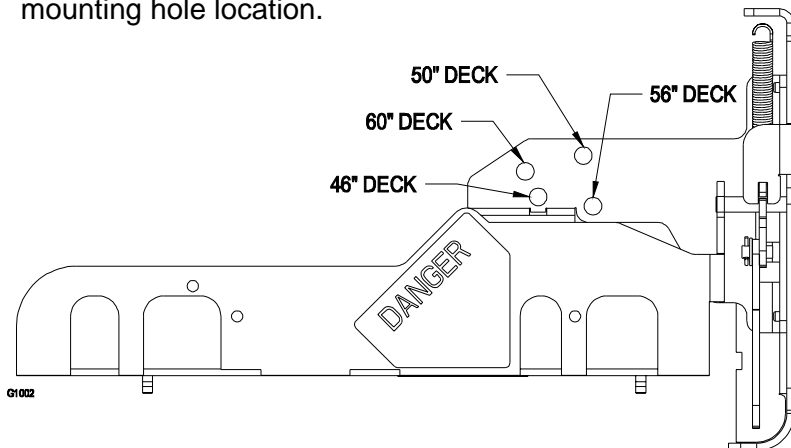
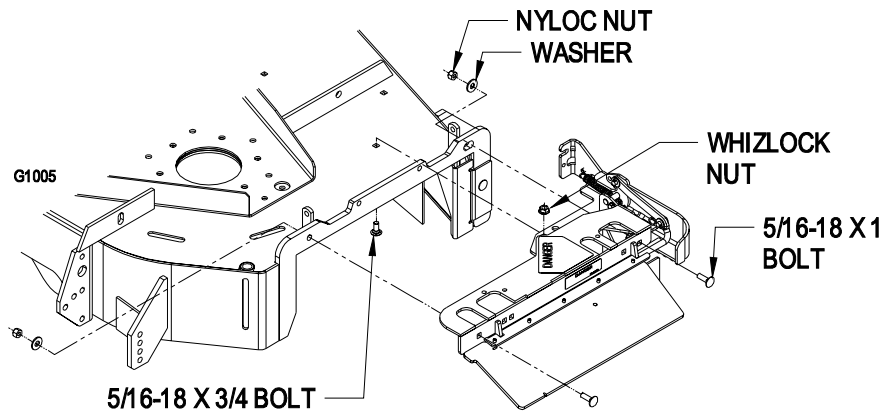
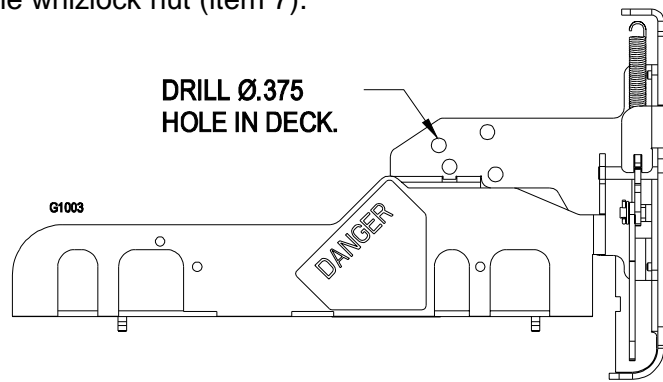

FIGURE 11D
FIGURE 11E
FIGURE 11F
- a) Locate the correct mounting hole as shown in Figure 11D. Install two 5/16-18 x 1 bolts (item 13) and fasten to the deck with washer (item 6) and nyloc nut (item 2). Install 5/16-18 x 3/4 bolt (item 18) from the bottom of the deck, and draw up into hole using the whizlock nut (item 7), see Figure 11E for correct mounting hole location.
- a) Install two 5/16-18 x 1 bolts (item 13) and fasten to the deck with washer (item 6) and nyloc nut (item 2) as shown in Figure 11E. Drill $\text{\O} .375$ hole in the deck to mate up with the gate linkage assembly (item 12) where shown in Figure 11F. The drilled hole location will avoid under deck baffles on the deck. Install 5/16-18 x 3/4 bolt (item 18) from the bottom of the deck, and draw up into hole using the whizlock nut (item 7).